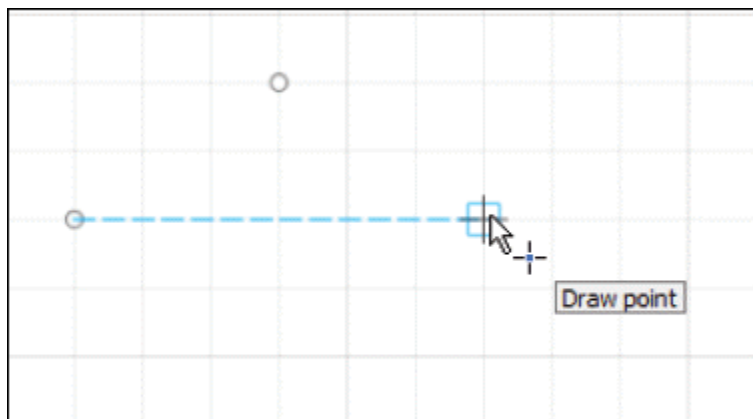

Figure-43. Creation of point
- Click at desired locations in the sketch canvas to create points; refer to Figure-43.